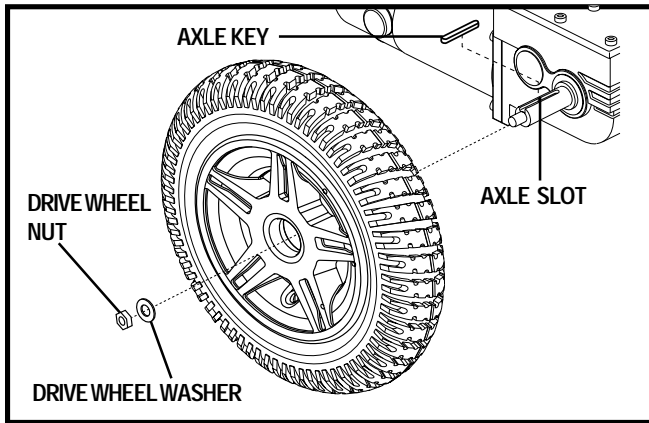

Figure 22. Jazzy Select 14 Series Drive Wheel
4. Remove the drive wheel nut and washer from the axle. See figure 22.